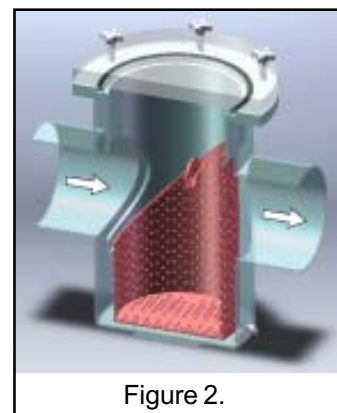
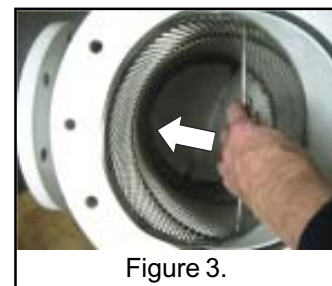

Figure 2.
Figure 3.
2. Position the basket correctly into the strainer body so that the flow direction is into the open basket, see Figure 2. Do not force the basket. It fits only one way against the diagonal ledge. Verify that the handle target is perpendicular to the incoming flow, see Figure 3.